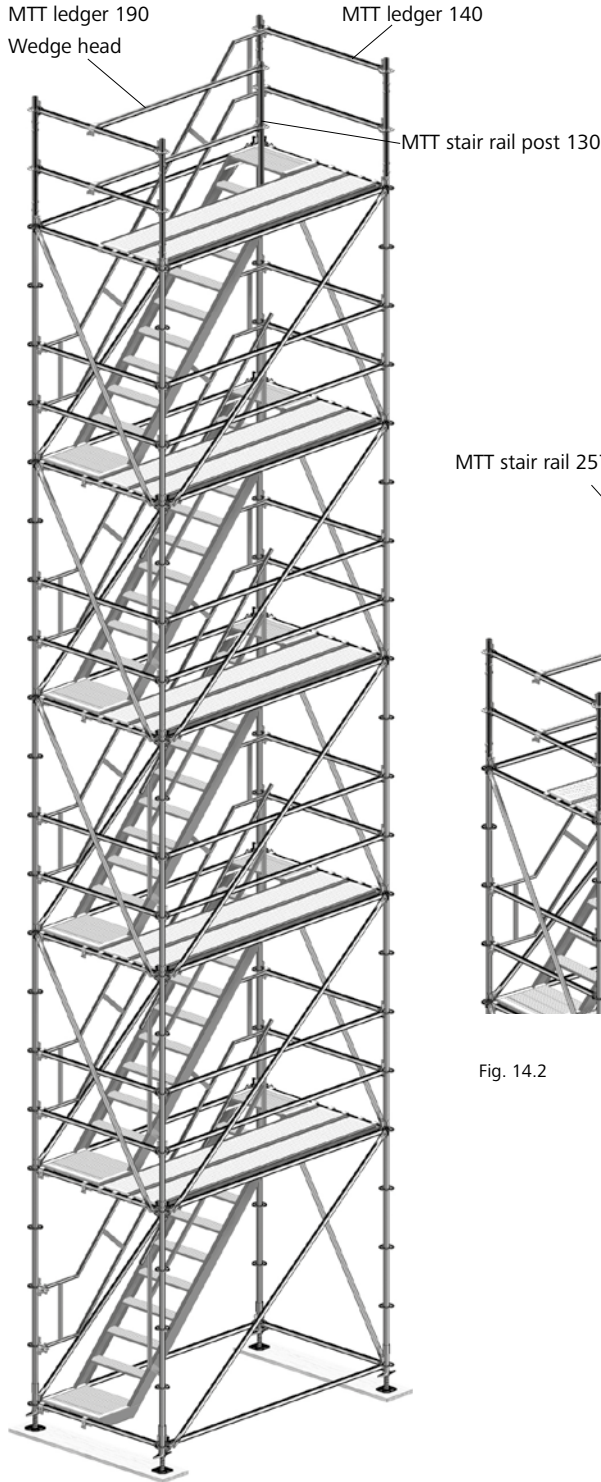

Fig. 14.1
24. Once the stair tower has reached the desired height, the top level is secured with an MTT stair rail post 130 and two MTT ledgers 190 with wedge head to provide fall protection (Fig. 14.1).
If the exit is to be located on the long side, two MTT ledgers 140 are installed on the end faces (short sides) (Fig. 14.1).